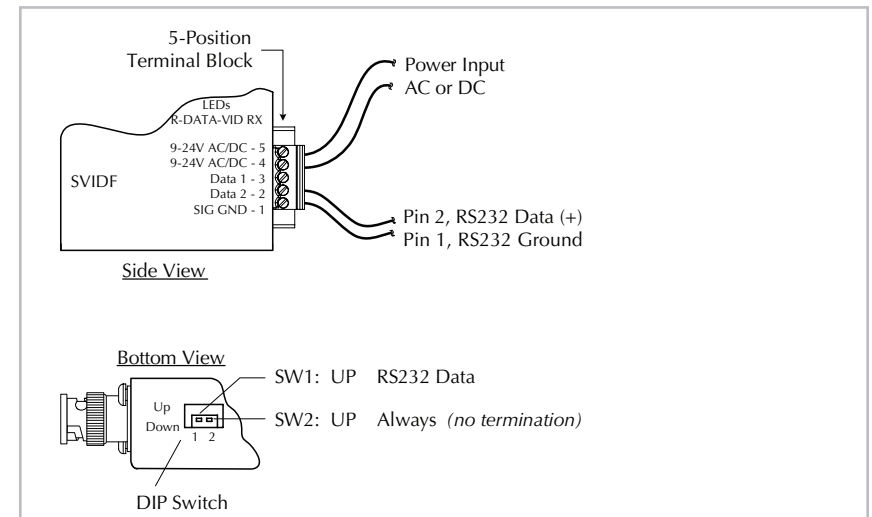

Figure 5: RS232 Transmitter Data TB Wiring and DIP Switch Settings
The SVIDF201x-100 video transmitter comes with an installed 5-position terminal block (*not wired*). Wire the terminal block for data and power in accordance with how the SVIDF20 video transmitter communicates with the camera. Figures 5 and 6 show each wiring scenario.
1. Loosen screws 1, 2, 4, and 5 on the TB, shown in Figure 5.
3. Set DIP switches “1” and “2” UP (*no termination*), as shown in Figure 5.